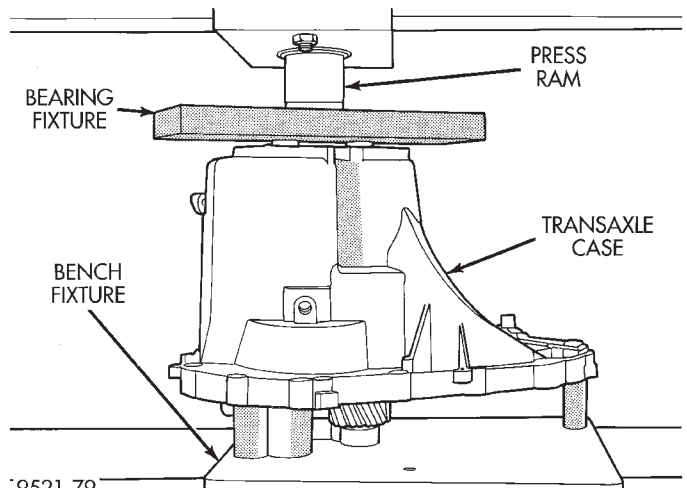

Fig. 55 Pressing Gears Out of Case
(15) Install transaxle gear case into shop press. Press output and input shaft assemblies out of case (Fig. 55).
(16) Remove transaxle from press.